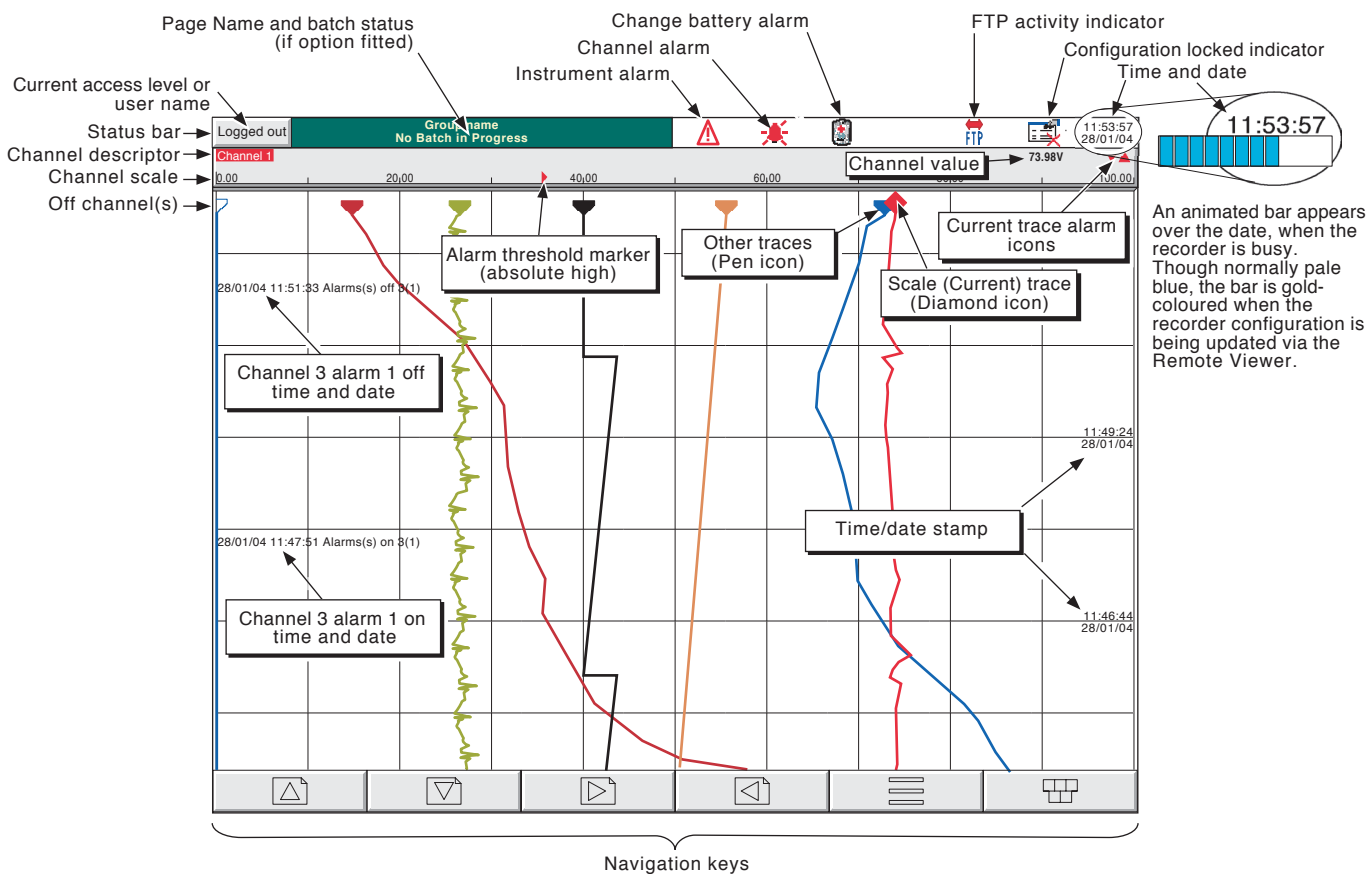

Figure 3 Trend display definitions
Process variable values can be displayed in one of a number of formats. This section (3) describes the process variable displays. (Section 4 describes the Configuration displays.) Figure 3, below, depicts a typical trend display and gives details of the various areas of the display page.